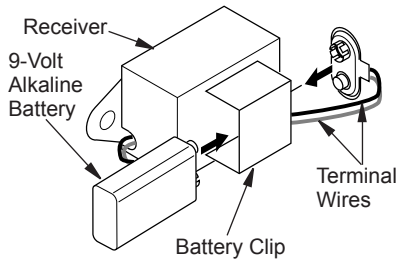

Figure 34 - Attaching Alkaline Battery to Receiver
3. Attach the terminal wires to the battery (see Figure 34).